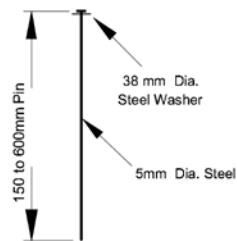

FIGURE 9: PIN DETAIL
- Metal pins should be at least 5mm diameter steel with a 38mm steel washer at the head of the pin (see Figure 9). Metal pins should be driven flush to the soil surface. Pins should be between 150-600mm long and have sufficient ground penetration to resist pullout. Longer pins may be required for looser soils. Heavier metal stakes may be required in rocky soils. Depending on soil pH and design life of the pin, galvanised or stainless steel pins may be required. Consult project plans and/or specifications for tie down device details.